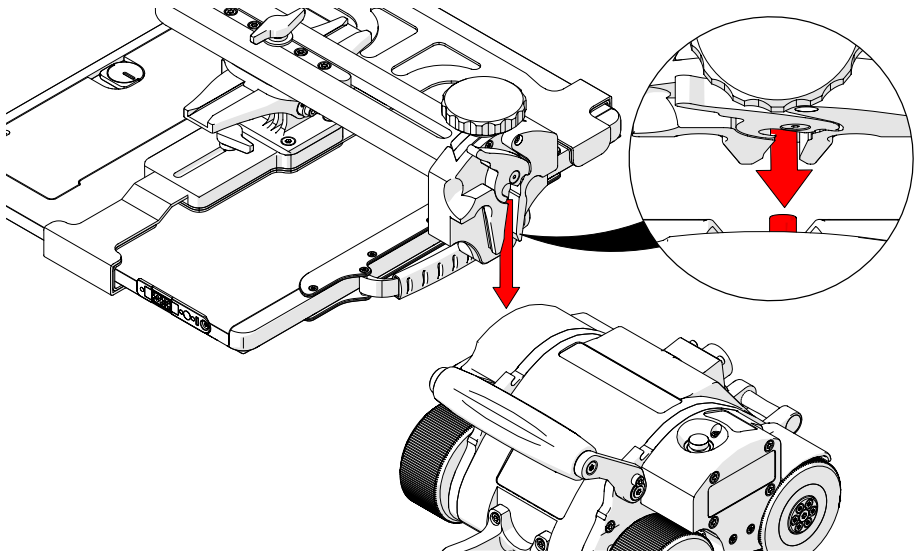

Fig. 51 - Align detector bracket groove with crawler's dowel
2. Align the groove of the detector bracket with the dowel of the **SKOOT•X** crawler (Fig. 51).